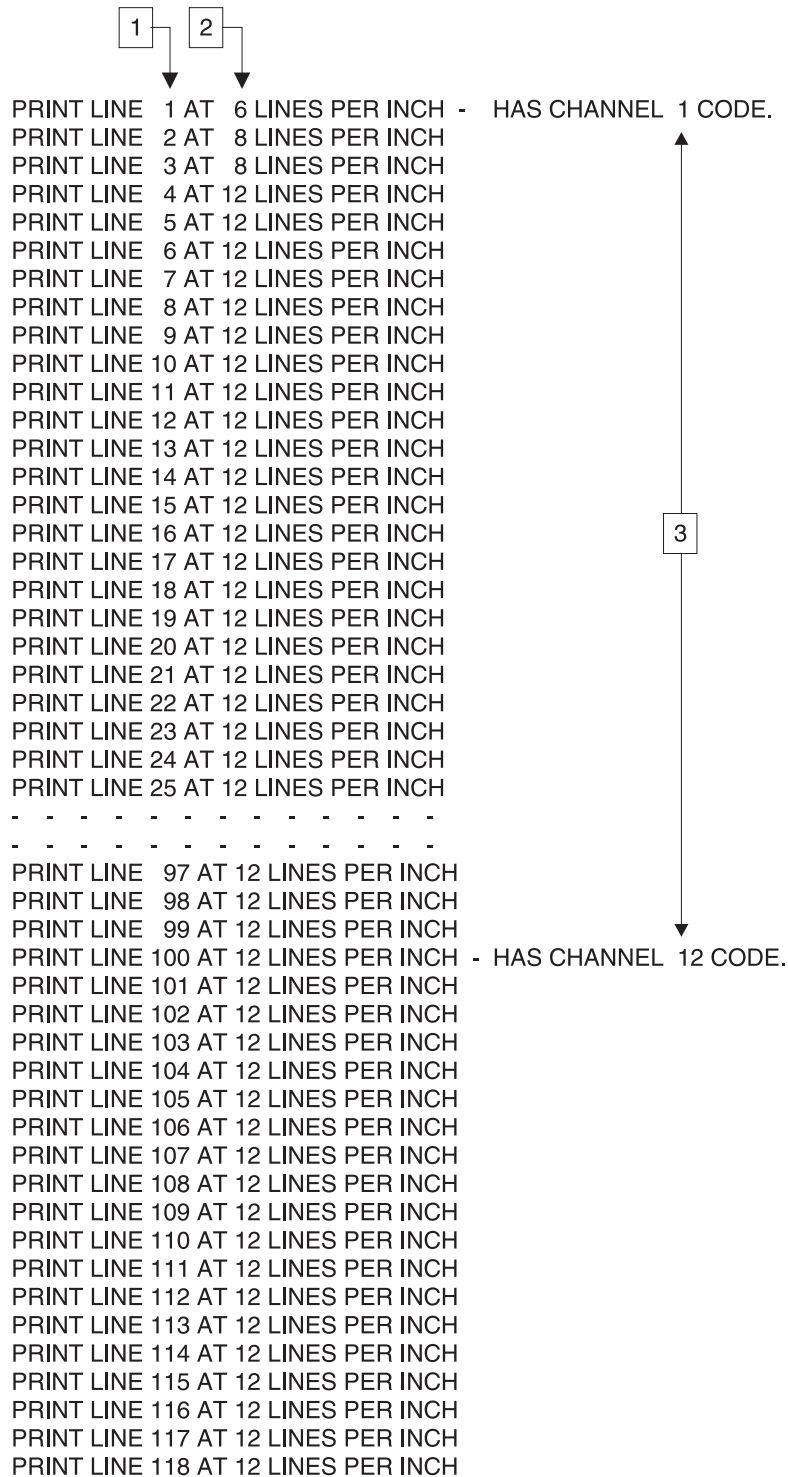

Figure 28. IEBIMAGE Listing of a Forms Control Buffer Module
Figure 28 on page 140 shows the IEBIMAGE listing of a 3800 FCB module. The notes that follow the figure describe the encircled numbers in the figure.
**Notes to Figure 28:**